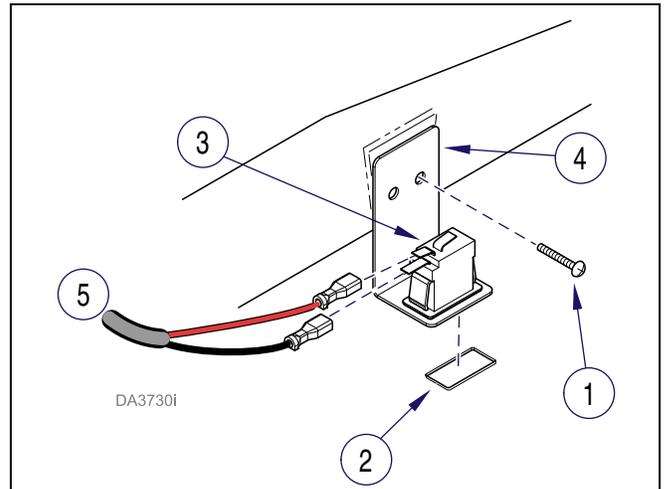

Figure 4-24. Safety Bail Limit Switch.
- (1) Unplug chair power cord.
- (2) Remove covers (refer to para. 4.3).
- (3) Disconnect wire harness (1, Fig. 4-24).
- (4) Remove two screws (1), plate (2), and safety bail limit switch (3) from mounting bracket (4).
- (1) Place limit switch (4, Fig. 4-24) on mounting bracket (4) and secure with plate (2).
- (2) Attach wire harness (5) as shown.
- (1) Place a light coating of silicon on hydroglide pins (A, Fig. 4-24). Install wheel halves (10) and push nuts (9).